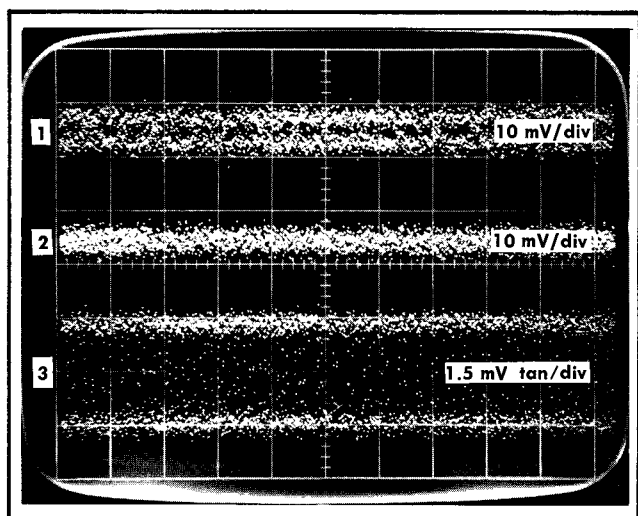

Fig. 5-13. Triple exposures of Tangential noise measurement, step 10.
e. Refer to Fig. 5-13 during the following noise measurement procedure.
(1) Obtain a display of two traces as shown at point (1) of Fig. 5-13. Adjust the variable attenuator until the two traces blend together just to the point (2) at which they appear as one trace.
(2) Set the Type 284 Square Wave Amplitude control to 1.0 V ( $\times 10$  signal amplitude). The display (3) now has a tangential deflection factor of 1.5 mV/div. ( $E_{\text{tangential}}$  per division is equal to the Type 3S2 Units/Div setting of 10 mV divided by 2, times 3 divided by 10 = 1.5 mV/div.) Therefore, the 3 mV tangential noise limit includes 2 graticule divisions (3) of Fig. 5-13. Check that the bottom edges of the two traces are not more than 2 divisions apart. Waveform (3) Fig. 5-13 measures as 3 mV tangential noise.
The noise display (3 of Fig. 5-13) has a noise deflection factor based upon the signal amplitude, the Type 3S2 Units/Div switch setting, the fact that the final trace separation is twice the RMS noise, and that the tangential noise is then 3 times the RMS noise. The square wave signal amplitude that makes two traces appear as one sets the trace separation to twice the RMS noise. The procedure used here then